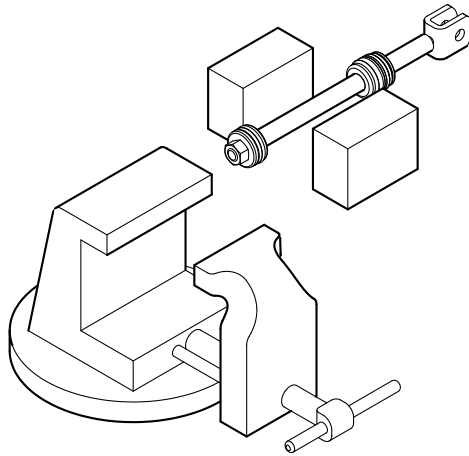

Figure 5-2, Cylinder Shaft
6. Clamp the rod assembly in a soft jawed vise on the wrench flats, **not on the rod surface**. If the rod does not have wrench flats use two pieces of wood on both sides of the rod to prevent scaring. (Figure 5-2)